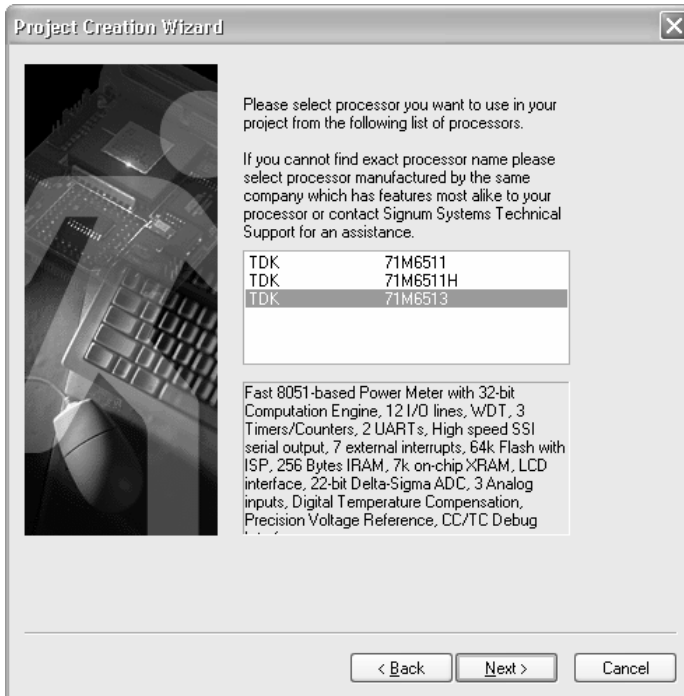

FIGURE 6 Choosing the emulation processor.
9. Select the emulated target processor from the list (Figure 6). Click Next.